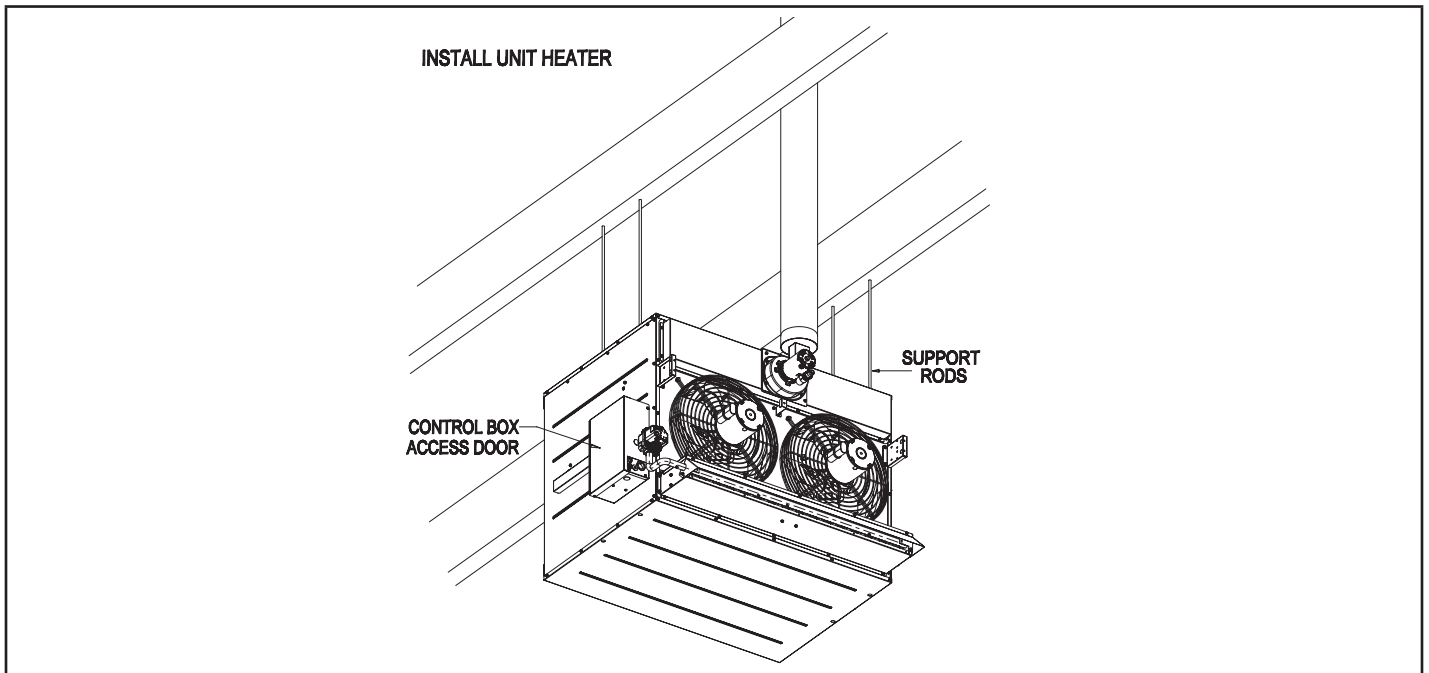

FIGURE 1
- 5 - Screw the rods (four) into the mounting nuts on the unit. See figure 1.